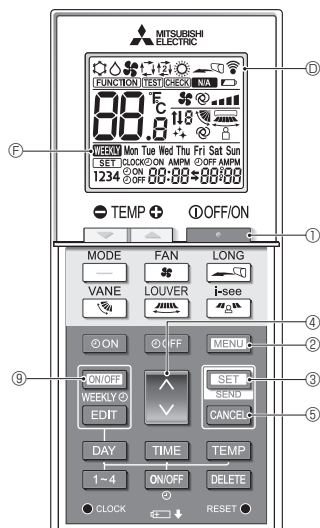

Fig. 5-1
- 1. Press the [STOP] button ① to stop the air conditioner.
- If the weekly timer is enabled, press the [ON/OFF] button ⑨ to disable the timer. ([WEEKLY] ⑥ disappears.)
- 2. Press the [MENU] button ②.
- The Function setting screen will be displayed and the function No. ④ will blink. (Fig. 5-1)
- 1. While the operation screen for each function is displayed, press the [MENU] button ② or the [CANCEL] button ⑤.